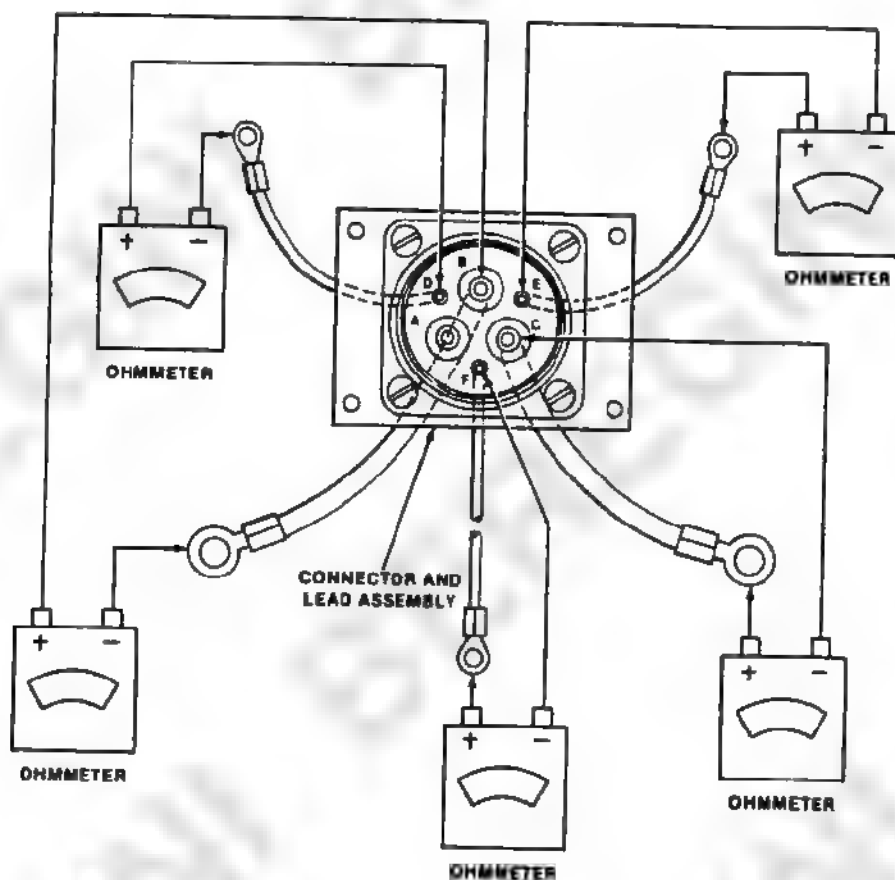

Figure 2-6. Connector Pin and Lead Continuity Check.
Step 8. Check continuity of pins and leads in connector assembly according to figure 2-6